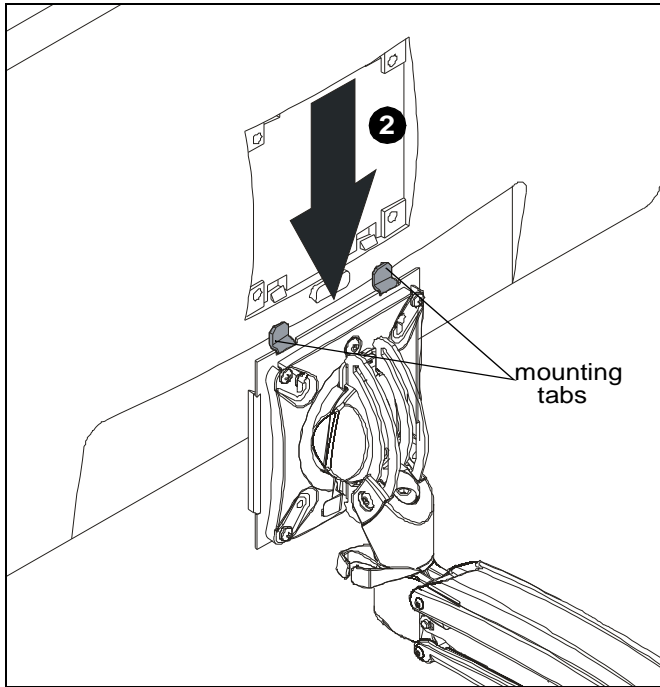

Figure 3
1. Position monitor over mounting tabs on quick-connect bracket (A). (See Figure 3)
2. Lower monitor onto quick-connect bracket, inserting mounting tabs into top two top mounting holes on back of monitor. (See Figure 3)